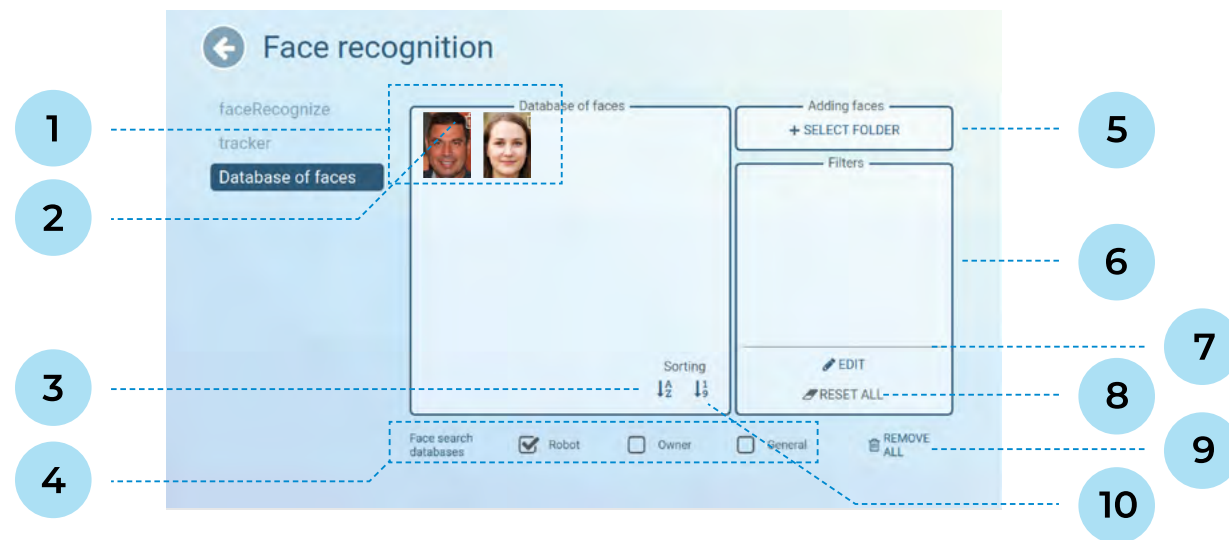

Figure 6.16. Face recognition settings, Database of faces tab
You can manage the saved faces in the same section, in the **Database of faces** tab (Figure 6.16). Faces are saved to make the robot possible to greet a visitor by name.
- Save the photo on the robot** — if this option is enabled, then this photo will be displayed in the area of the saved faces in the database (item 1 on Figure 6.16). It is recommended to enable this option.